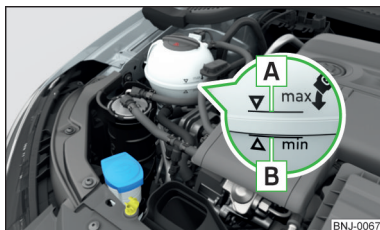

Fig. 148
» Fig. 148 on page 156.
- Do not fill the coolant above the mark **A** » Fig. 148 on page 156.
Coolant expansion tank » Fig. 148
» Check the level of coolant at the coolant expansion vessel » Fig. 148.
If the engine is warm, the test result may be inaccurate. The stand can also be above the mark **A** » Fig. 148.